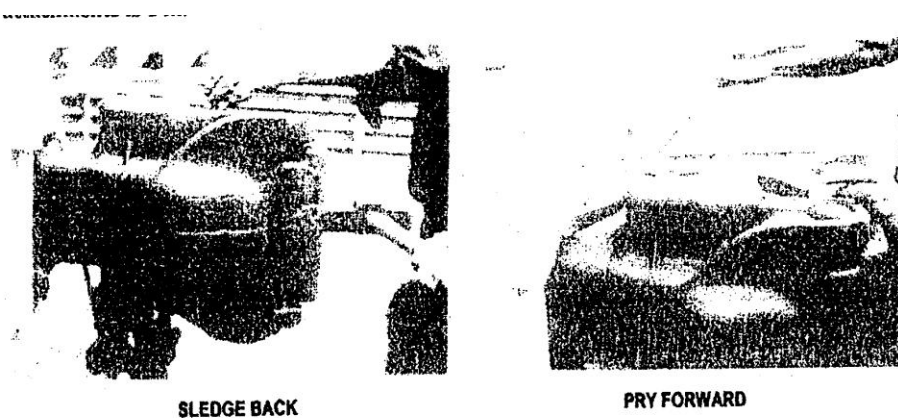

Fig. 2.4
2.2.3 Free slack exceeding 1 inch is an indication of a worn or defective coupler shank, coupler yoke connection, yoke, draft gear, follower, or car pocket. Excess of slack in draft attachments should be reduced or eliminated. **WARNING!** Excess slack may be an indication of a stuck draft gear that could cause personal injury. Never attempt to check free slack without first verifying that the draft gear is not stuck. The amount of free slack can be determined by first sledging the coupler back solid and then measuring the clearance between the coupler horn and the striker face. Next, insert a long bar between horn and striker face and pry the coupler out as far as possible and again measure the space between the horn and striker (Fig.2.4). The difference between these two measurements is the amount of free slack present. The maximum permissible free slack in the draft attachments is 1 inch.